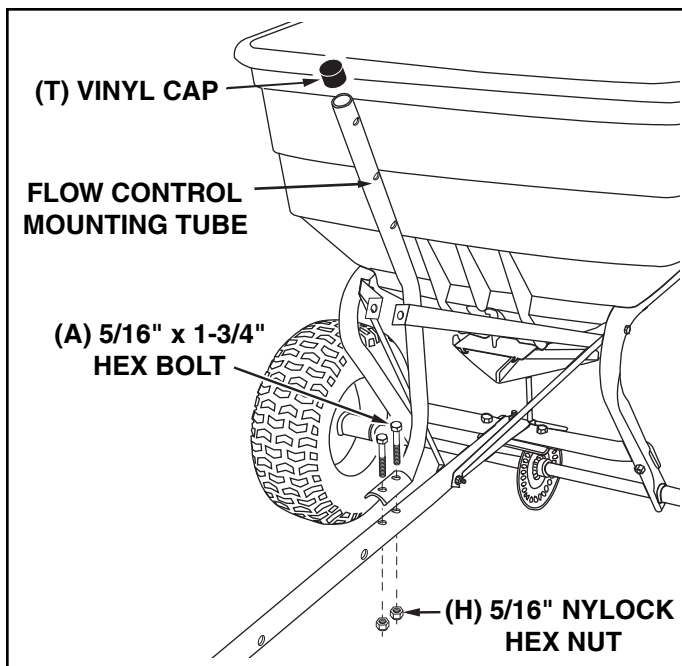

FIGURE 5
13. Assemble the flow control mounting tube to the hitch tube using two 5/16" x 1-3/4" hex bolts (A) and 5/16" nylock hex nuts (H). **DO NOT TIGHTEN YET**. See figure 5.
14. Assemble the vinyl cap (T) onto the flow control mounting tube. See figure 5.